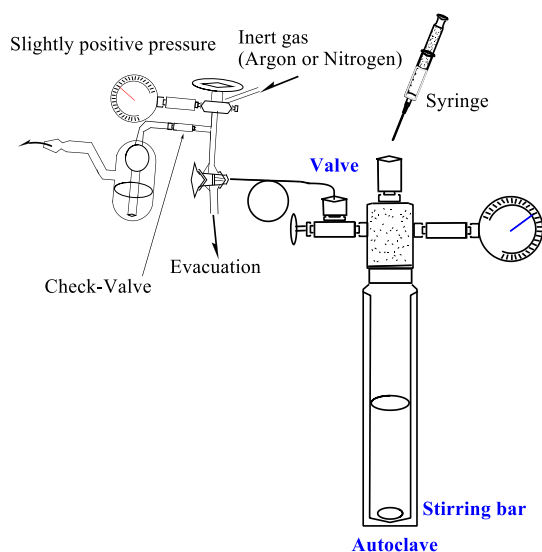

Figure 1. Transferring method.
- (1) A dry, stainless steel autoclave with a Teflon-coated magnetic stirring bar is evacuated and filled with an inert gas (argon or nitrogen) three times.
- (2) The catalyst is placed into the autoclave under an inert gas atmosphere and the evacuation/inert gas refill cycle is repeated three times.
- (3) A dry, Schlenk tube (flask) equipped with a rubber septum and a Teflon-coated magnetic stirring bar is evacuated and filled with an inert gas three times.
- (4) The Schlenk tube (flask) is charged with the substrate, alcohol and water by syringes under slightly positive pressure of an inert gas, and the inlet is sealed by a glass stopper using silicone grease.
- (5) The substrate solution is transferred into the autoclave by a syringe under slightly positive pressure of an inert gas (Figure 1).